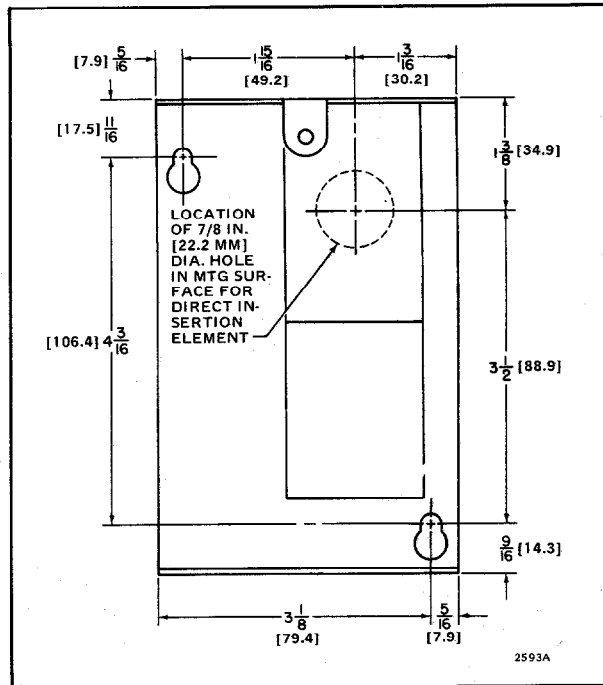

FIG. 1—L4017A AND B DIMENSIONS, IN INCHES [MILLIMETERS IN BRACKETS], AND LOCATION OF MOUNTING HOLES.
DIMENSIONS: See Fig. 1.
3. Use the control as a template to mark the location of the 2 mounting holes (see Fig. 1).